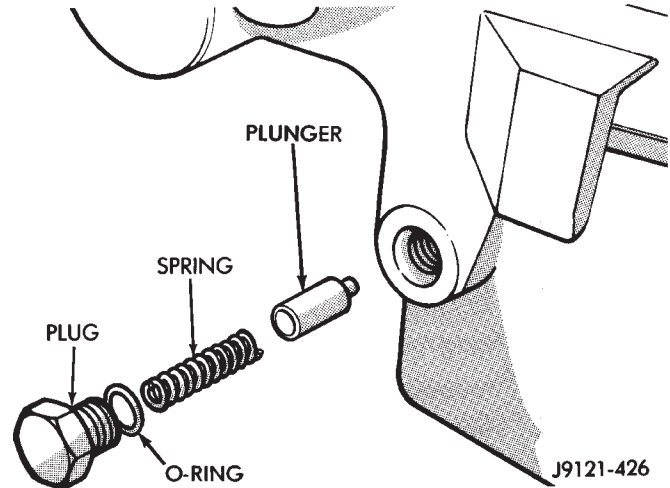

Fig. 82 Detent Pin, Spring And Plug Installation
(22) Install plug in lockpin access hole.
(23) Install detent plunger, detent spring and detent plug in case (Fig. 82).